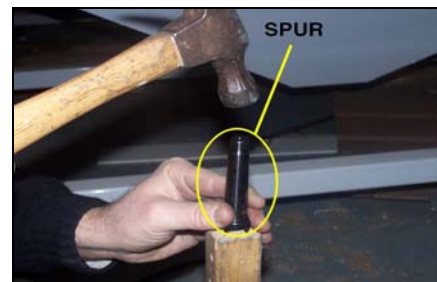

Figure 5.5
4. Hammer the Spur into the wood. (Figure 5.5) **If wood is very hard follow these directions:**